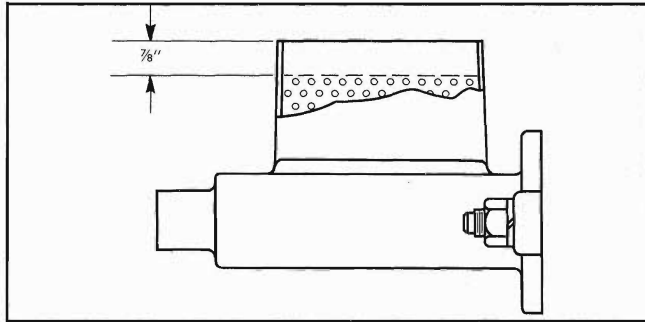

Fig. 5-12 Correct Fluid Level in Master Cylinder
4. When bleeding operation is completed, refill reservoir to within $\frac{1}{8}$ " of top of master cylinder filler neck gasket surface (Fig. 5-12) then replace filler cap.